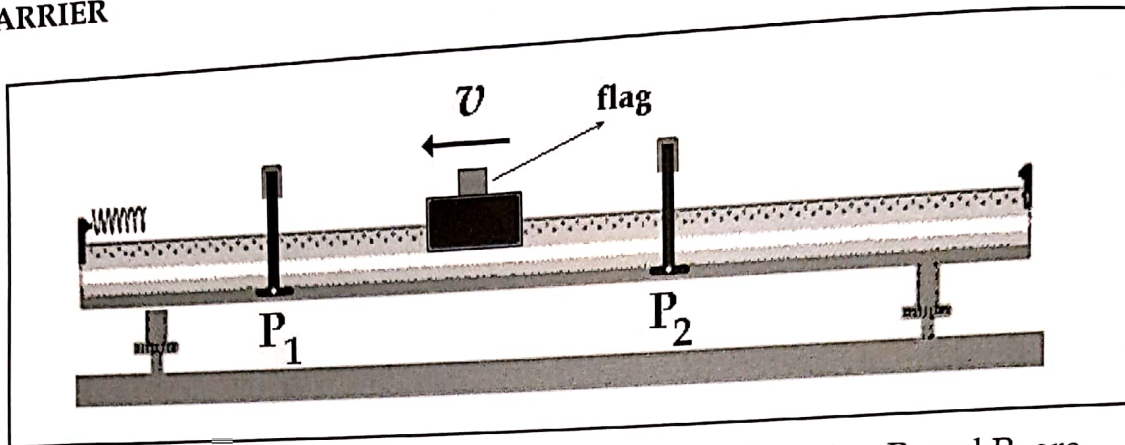

Figure 6.2: Elastic collision of cart 1 against a fixed barrier. P₁ and P₂ are photogates.
2. Connect photogate P₁ to a power outlet, and place it about 20 cm from the spring attached to the end of the track as in Figure 6.2.